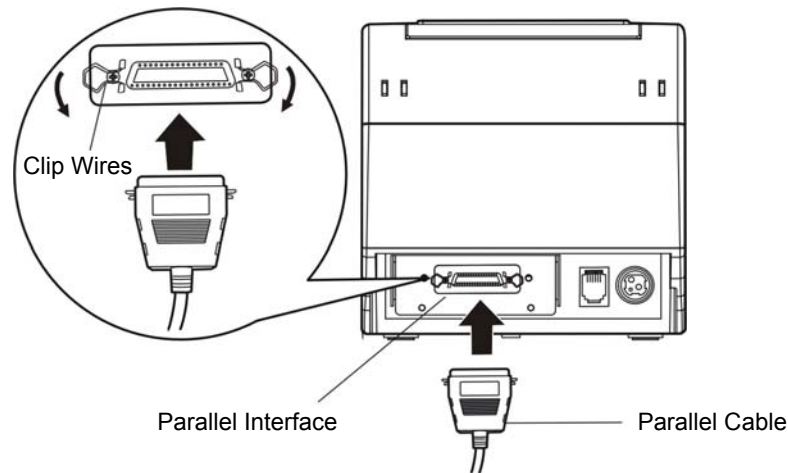

Fig 2-2 Connecting the parallel interface cable
1. Make sure the Host and the printer are both turned off, connect the parallel interface cable to the connector on the rear panel of the printer, fasten the connector clasps as shown in Fig 2-2.